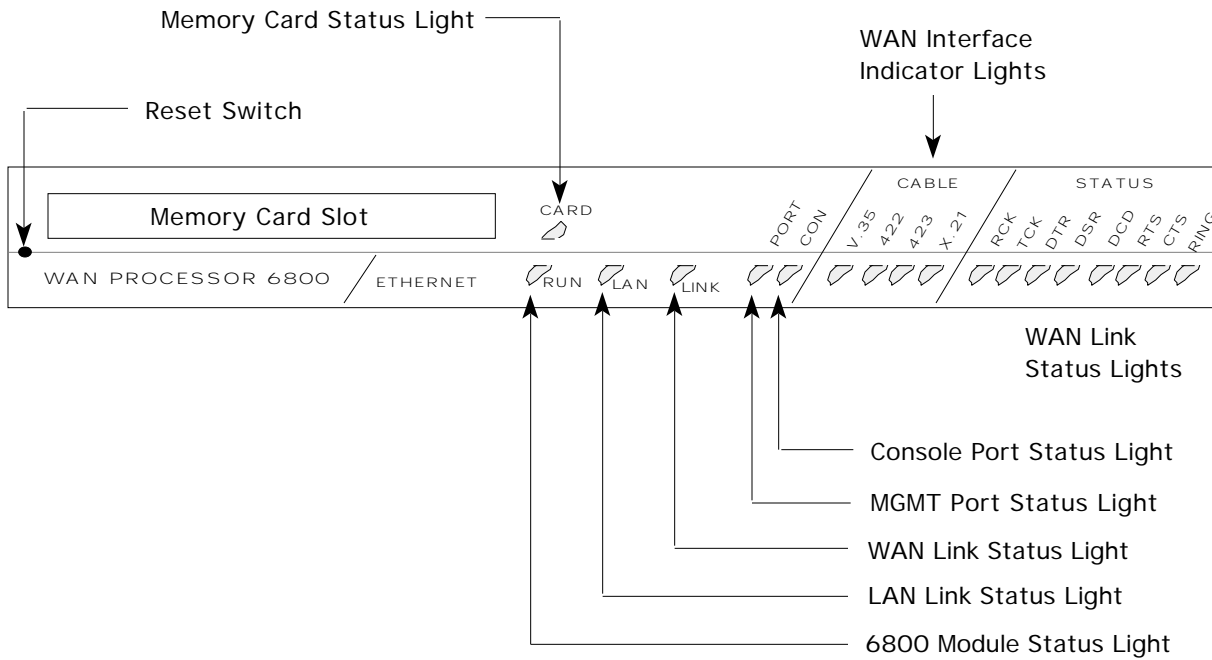

Figure 1-1. WAN Processor 6800 Module, Front View
Figure 1-1 shows the location and function of all indicator lights on the 6800 module:
2. Find the module's reset switch. (Figure 1-1 shows its location.)